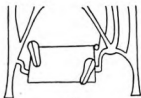

FIGURE 71
*Purl* (Figure 71). — To purl, bring the yarn in front of the right-hand needle. Slip the right-hand needle into the front of the stitch on the left-hand needle. Place the yarn around the back of the needle as it passes in the stitch, catch it in and take off. Always place the yarn back of the needle after a purled stitch before knitting a plain stitch. In any kind of knitting, the first stitch is slipped, not knitted.